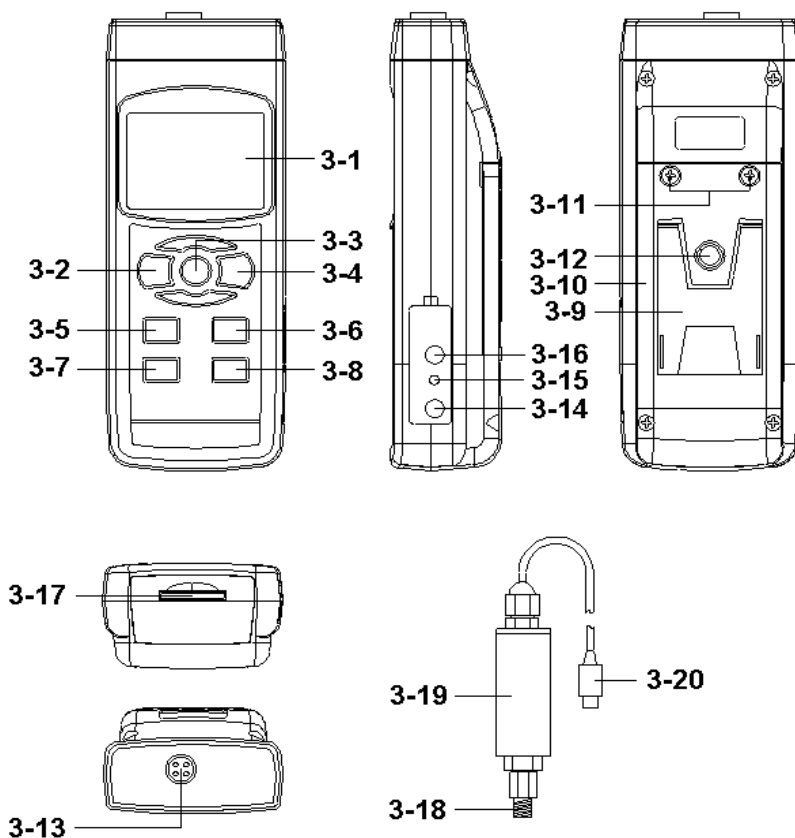

Fig. 1
After already select the convenient pressure sensor type, press Sensor type Button ( 3-6, Fig. 1 ) once, the Display will show the sensor type to confirm.
For example, if the pressure type already select 2 bar pressure sensor ( Model : PS100-2BAR ), then if press Sensor type Button ( 3-6, Fig. 1 ) once, the Display will show :
- 1) Plug in the " Plug of Pressure Sensor " ( 3-20, Fig. 1 ) to meter's " Probe Input Socket " ( 3-13, Fig. 1 )
- 2) Power on the meter by pushing the " Power Button " ( 3-2, Fig. 1 ) once.
- 3) Press the " Sensor Type Button " ( 3-6, Fig 1 ) once to check if the meter's sensor type is same as the external pressure sensor.
- 4) Press the " Unit Button " ( 3-5, Fig. 1 ) once in sequence to select the measuring unit as : Bar, Psi, Kg/cm2, mm Hg, inch Hg, meter H2O, inch H2O, Atmosphere, hPA, kPA.
If the Display is not show zero value, push the " Zero Button " ( 3-7, Fig. 1 ), > 10 seconds continuously, the Display value will change to zero value.
6) Connect the " Port Connector of Pressure Sensor " ( 3-18, Fig. 1 ) to the installation that intend to measure the pressure value.
During the measurement, press the " Hold Button " ( 3-3, Fig. 1 ) once will hold the measured value & the LCD will display a " HOLD " symbol.
1) The data record function records the maximum and minimum readings. Press the " REC Button " ( 3-4, Fig. 1 ) once to start the Data Record function and there will be a " REC " symbol on the display.
a) Press the " REC Button " ( 3-4, Fig. 1 ) once, the " REC MAX " symbol along with the maximum value will appear on the display.
*If intend to delete the maximum value, just press the " Hold Button " ( 3-3, Fig. 1 ) once, then the display will show the " REC " symbol only & execute the memory function continuously.*
- b) Press the " REC Button " ( 3-4, Fig. 1 ) again, the " REC MIN " symbol along with the minimum value will appear on the display.
*If intend to delete the minimum value, just press the " Hold Button " ( 3-3, Fig. 1 ) once, then the display will show the " REC " symbol only & execute the memory function continuously.*
After power ON, the " LCD Backlight " will light automatically. During the measurement, press the " Backlight Button " ( 3-2, Fig. 1 ) once will turn OFF the " LCD Backlight ".
Prepare a " SD memory card " ( 1 GB to 16 GB, optional ), insert the SD card into the " SD card socket " ( 3-17, Fig. 1 ). The front panel of the SD card should face against the down case.
Press the " REC Button ( 3-4, Fig. 1 ) once , the LCD will show the text " REC ", then press the " Logger Button " ( 3-8, Fig. 1 ), the bottom text " DATALOGGER " will flashing, at the same time the measuring data along the time information will be saved into the memory circuit.
During execute the Datalogger function , if press the " Logger Button " ( 3-8, Fig. 1 ) once will pause the Datalogger function ( stop to save the measuring data into the memory circuit temporally ). In the same time the text of " DATALOGGER " will be no flashing.
*If press the " Logger Button " ( 3-8, Fig. 1 ) once again will execute the Datalogger again, the bottom text of " DATALOGGER " will flashing .*
During pause the Datalogger, press the " REC Button " ( 3-4, Fig. 1 ) continuously at least two seconds, the " REC " indication will be disappeared and finish the Datalogger.
Press the " REC Button ( 3-4, Fig. 1 ) once , the LCD will show the text " REC ", then press the " Logger Button " ( 3-8, Fig. 1 ) once, the bottom text " DATALOGGER " will flashing once and Beeper will sound once, at the same time the measuring data along the time information will be saved into the memory circuit. The lower Display will show the Position ( Location ) no. and saved into the SD card too.
*During execute the Manual Datalogger, press the " ▲ Button " ( 3-5, Fig. 1 ) the lower no. ( position no. ) will flashing. It can use the " ▲ Button " ( 3-5, Fig. 1 ) or " ▼ Button " ( 3-6, Fig. 1 ) to set the measuring Location no. ( 1 to 99, for example room 1 to room 99 ) to identify the measurement location , the lower Display will show  $P \times (x = 1 \text{ to } 99)$ .*